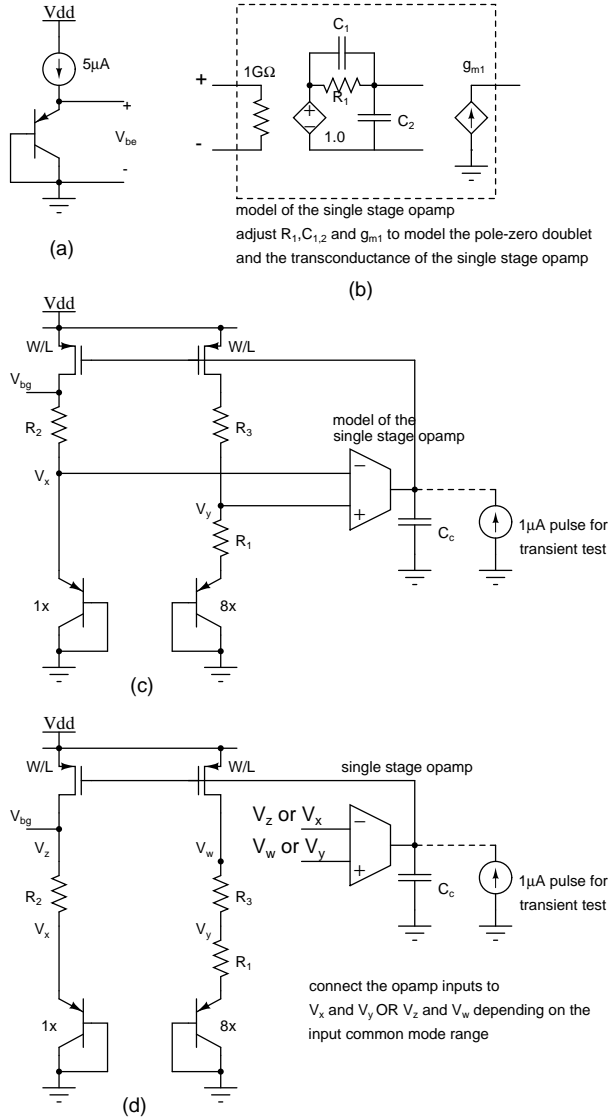

Figure 2: Bandgap reference
- Bandgap reference:** Bias a 1x sized diode connected PNP¹ at 5 μ A as shown in Fig. 2(a) and sweep the temperature from 0 to 100°C. Determine dV_{BE}/dT at 27°C.
Design the bandgap shown in Fig. 2(c). Choose R_1 for a quiescent current of 5 μ A and R_2 to get zero
temperature coefficient at V_{bg} . Choose $R_3 = R_2$. What is the role of R_3 ? Simulate the bandgap reference with the model of a single stage opamp assuming that the single stage opamp is made like the first stage of the previous problem. (Fig. 2(b)-model the gm, and the pole zero doublet). Choose C_c for ringing $\leq 10\%$. Test the bandgap reference by sweeping the temperature from 0 to 100°C and plot V_{bg} . Test the transient response by applying a 1 μ A pulse to the output of the opamp. Adjust the values of $R_1, R_2, R_3 (= R_2)$ if necessary to get zero TC at 27°C.
Modify the circuit as in Fig. 2(d). How should V_x, V_y , and V_{bg} change? What is the purpose of this modification? Resimulate with the opamp model as before and test the temperature sensitivity, transient response and the loop gain.
Use the model in Fig. 2(b) for the single stage opamp. Use a 50 μ A quiescent current in M_1 . Adjust the width (with minimum length) of M_1 for a dropout of 300 mV with a 50 mA current. You can use a 1.2V voltage source in place of the bandgap reference. Compensate the loop using a load capacitor C_L for a phase margin of 45° at $I_L = 0$ and $I_L = 50$ mA and choose the higher one. Do the following (except the last one) for two cases ($I_L = 0$ and $I_L = 50$ mA—you can use a current source for the load):